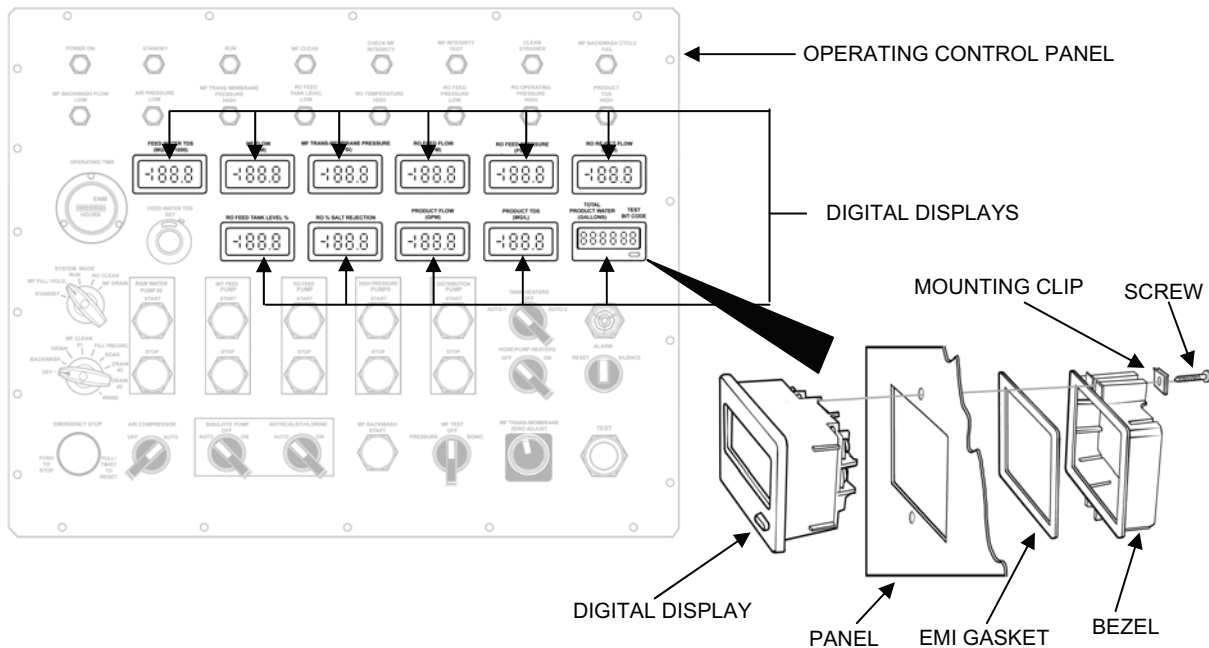

Figure 6. Digital Display Replacement.
1. Remove a digital display as follows (see Figure 6):